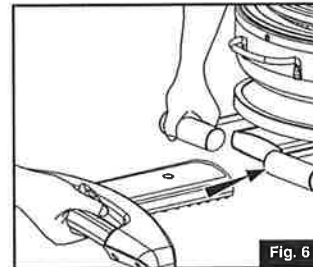

Fig. 6
- Insert towing handle into bracket on grill stand. (Fig. 6)